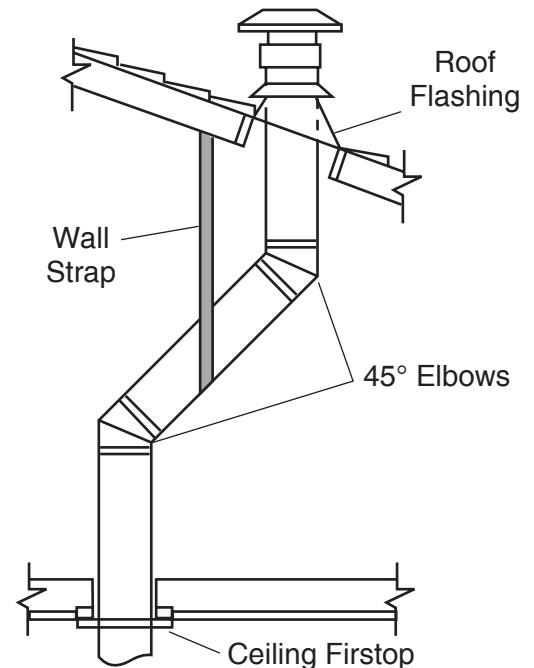

Figure 33 - Offset with Wall Strap and 45° Elbows
1. Determine the route your vertical venting will take. If ceiling joist, roof rafters or other framing will obstruct the venting system, consider an offset. See *Figure 33* to avoid cutting load bearing members.
NOTE: If an offset is needed to avoid obstructions, you must support the vent pipe every three (3) feet. Use wall straps for this purpose. See Figure 33, page 26. Whenever possible, use 45° elbows instead of 90° elbows. The 45° elbow offers less restriction to the flow of the flue gases and intake air.